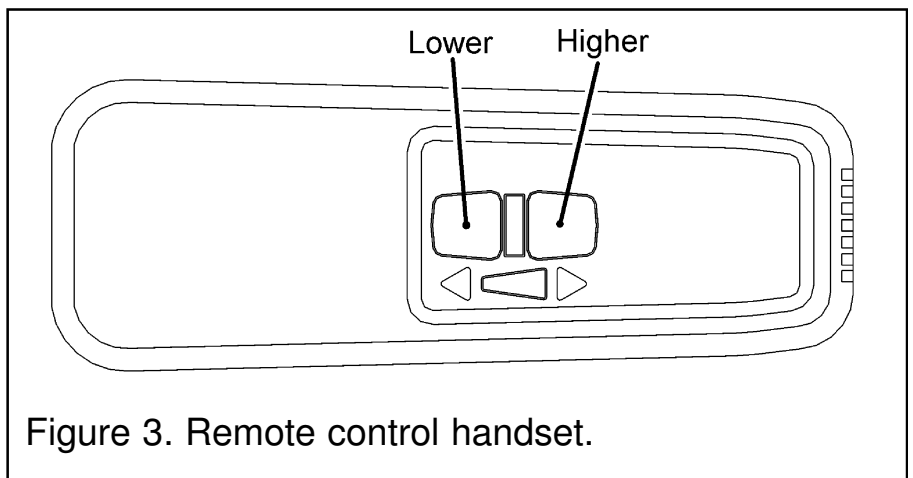

Figure 3. Remote control handset.
**1.** Keep the pilot burner at the "main burner on" position. Check the full range of main burner heat settings using the remote control handset. In order to vary the flame effect between High and Low positions, press, and keep depressed, either the High button, or the Low button as appropriate (See figure 3).